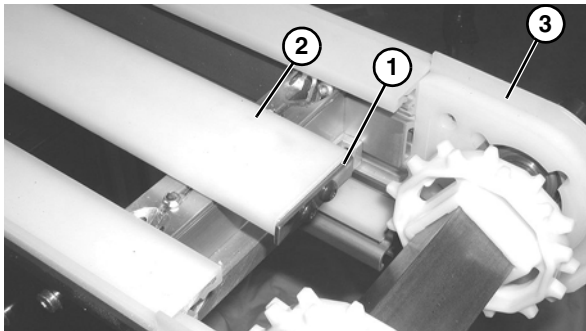

Figure 7
The stop plate (**Figure 7, item 1**) on the center wear strip (**Figure 7, item 2**) faces the drive end (**Figure 7, item 3**) of the conveyor.